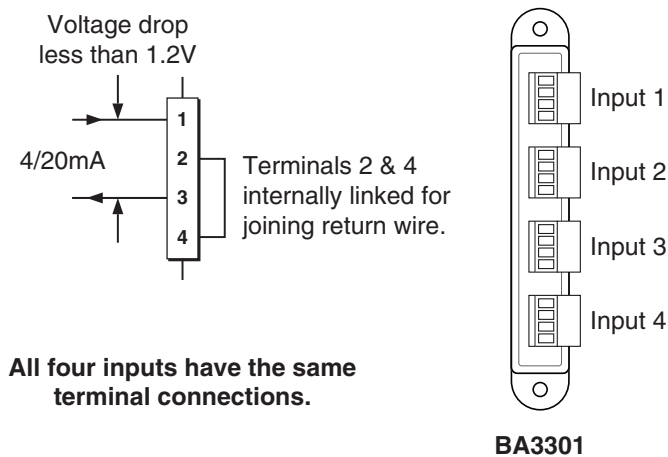

Fig 3 4/20mA input terminals
3. Connect field wiring to each of the four removable input terminal blocks. All the inputs are identical as shown in Fig 3. Each of the four inputs is a separate intrinsically safe circuit and field wiring should comply with segregation requirements specified in IEC/EN 60079-14. If a multicore cable is used for the inputs, it should have Type A or B construction as specified in Clause 16.2.2.7 of IEC/EN 60079-14 Wiring should be supported to avoid damaging the module's terminals.